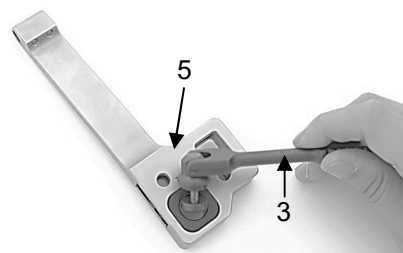

Fig. 15
First insert the drive lever (3) into the recess provided for this purpose in the cage (5) (Fig. 15).